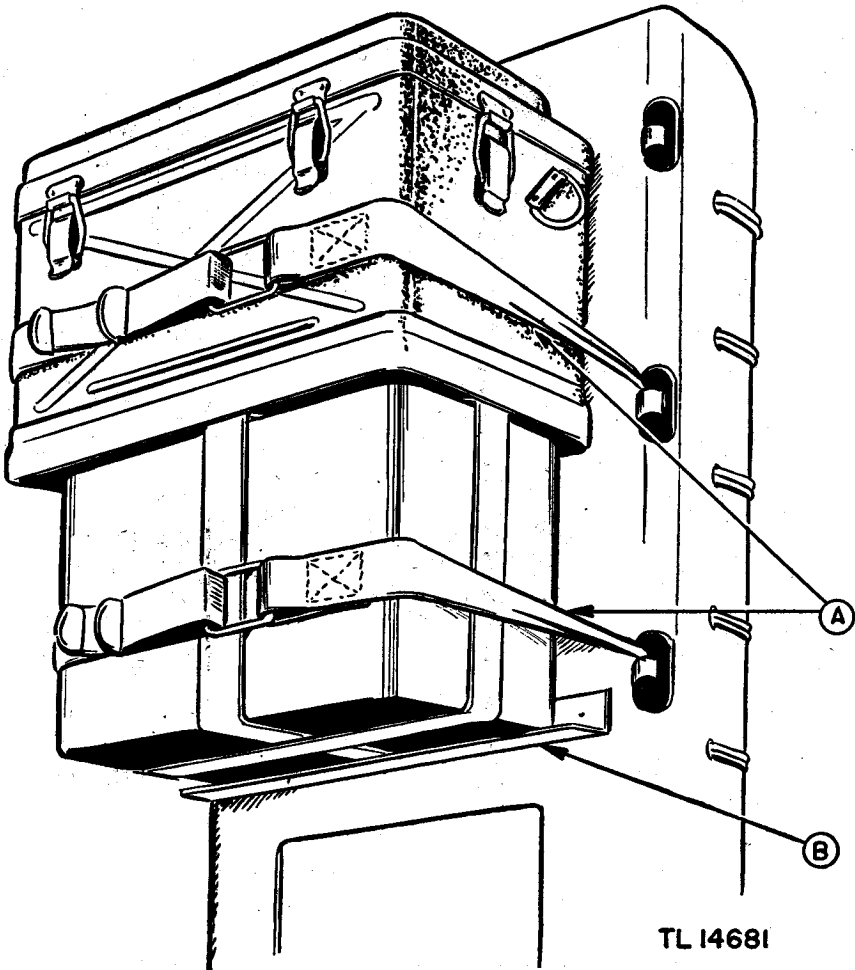

Figure 39. Radio Set SCR-300-A, with Battery BA-80 mounted to standard QM packboard, using quick release straps and cargo attachment.
b. MOUNTING AND USING LIGHT BATTERY BA-80 WITHOUT CASE CS-128. (1) Slip cargo attachment on the lower edge of the third opening from the top of the packboard, as shown at *B* in figure 39.
(2) Mount the radio set with Battery BA-80 to the packboard and fasten securely with the quick release straps as shown at *A* in figure 39.